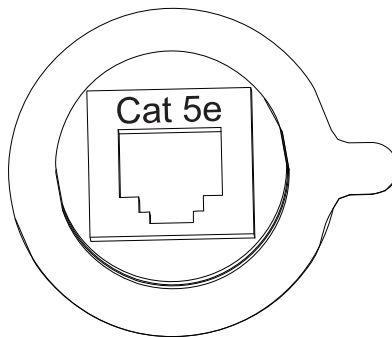

*Figure 3-26: USB Connector*
*Note: Figure 3-26 represents the view of the connector from the back of the printer*
*Note: Figure 3-26 represents the view of the connector from the back of the printer.*